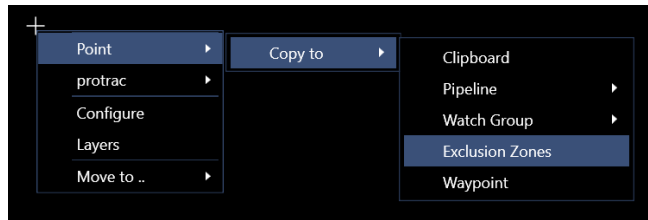

FIGURE 19-8 COPY SINGLE STATIC POINT TO EXCLUSION ZONE
- i. To set up a region based on a single point, select the point picker on the map view. click in the desired location on the map. Then right click on the point which has been created, and select copy to-> Exclusion zones (see Figure 19-8)